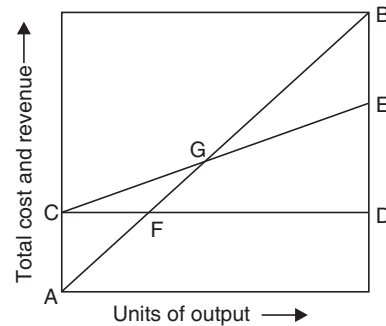

FIGURE 13.5. Break-even chart.
18. Figure 13.5 shows the break-even chart. In this chart, the fixed expenses are given by
19. In Fig. 13.5, total cost is represented by
20. In Fig. 13.5, total sales revenue is represented by
21. In Fig. 13.5, the break-even point is given by
22. In Fig. 13.5, the profit zone is represented by
23. In Fig. 13.5, the loss zone is represented by